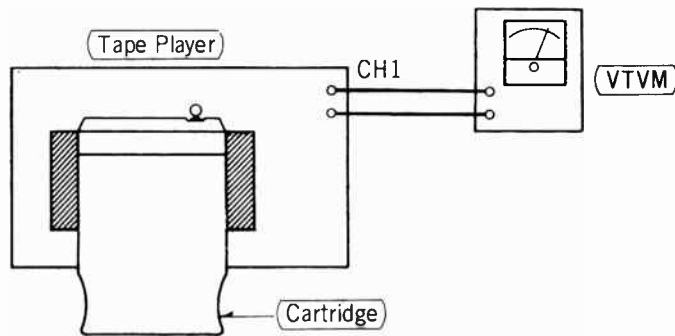

FIGURE 15
2. Connect the VTVM to the output of CH1 as shown in figure 15.